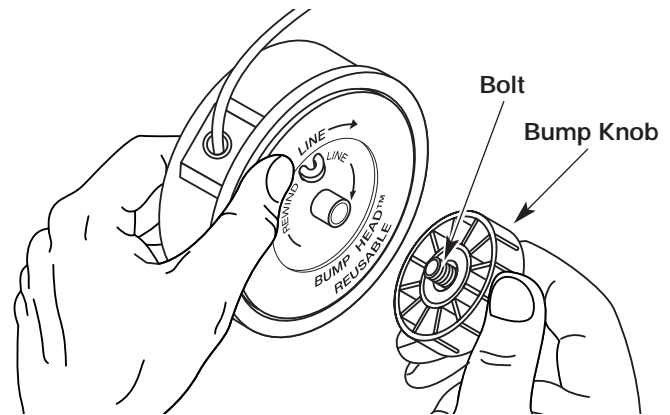

Figure 12
1. Hold the outer spool with one hand and unscrew the bump knob counterclockwise. See Figure 12. Inspect the bolt inside the bump knob to make sure it moves freely. Replace the bump knob if damaged.